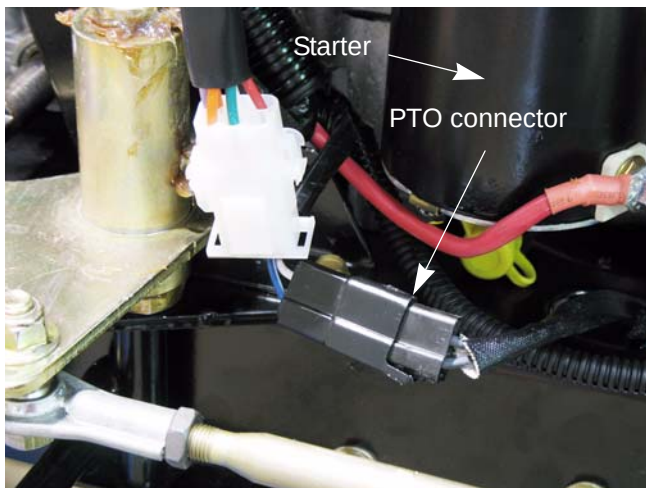

Figure 5.1
3. Unplug the electric PTO harness. See Figure 5.1.